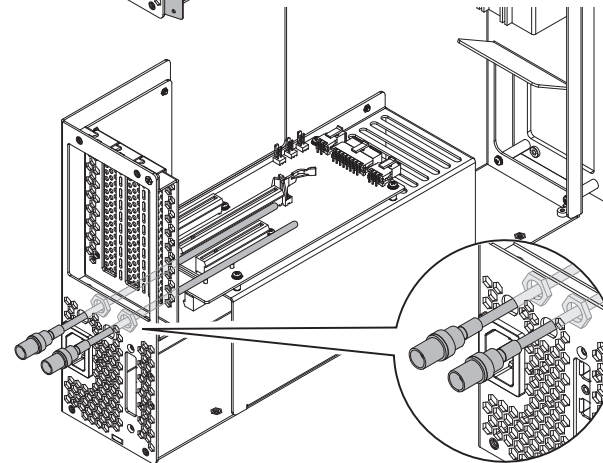

Figure A-3
4. Insert the BNC connectors through the BNC connector mounting holes in the module (**Figure A-3**). Route the cables out over the top of the PCIe slot riser card.
5. Slide the BNC connector nuts over the cables, and then secure the connectors to the module (**Figure A-3**).